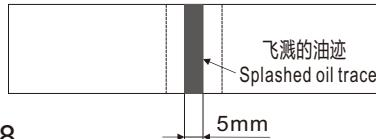

图8 Fig.8
6 旋梭油量调节 (图6、图7、图8)
Oil mass Adjustment of Rotating Hook (Fig. 6, Fig. 7, Fig. 8)
- 2) 请在缝纫机转动时将油量确认专用纸插入(具体操作见图8所示)。
- 2) Insert the special oil mass confirmation paper when the sewing machine is rotating (detailed operations are described in Fig. 8).
- 1) 右图标样(见图8)根据不同的缝制工序需求进行增或减的微调整，但应注意不要增加或减少过多。油量过少时会引起旋梭发热，油量过多时会污染缝料。
1) The guide sample shown in the right-hand figure (see Fig. 8) may be finely adjusted (increased or reduced) as per different sewing processes; however, excessive increase or reduction shall be avoided. Too little oil mass may lead to rotating hook heating, and overmuch oil mass may lead to contamination of the sewing materials.